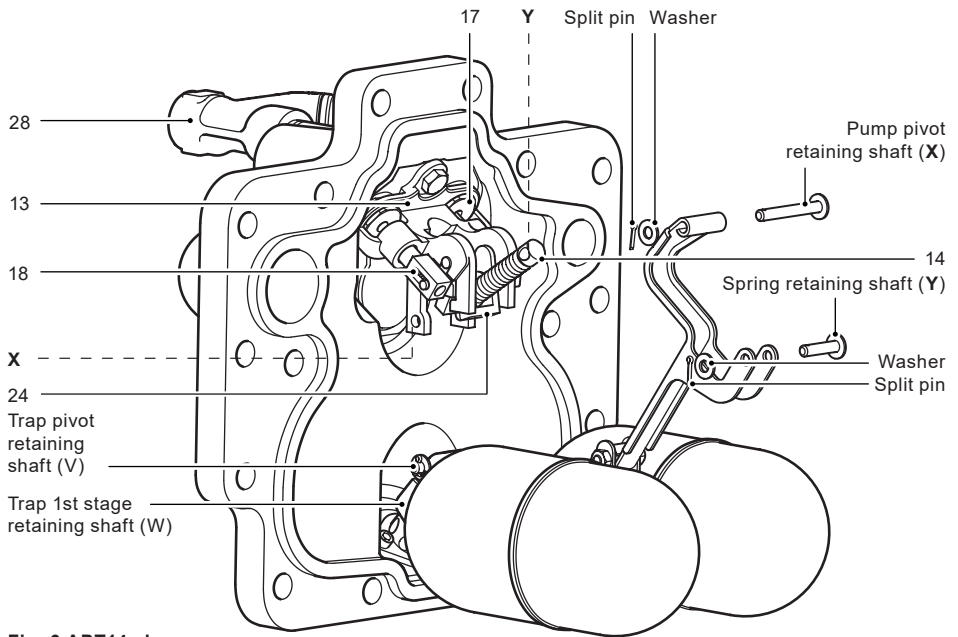
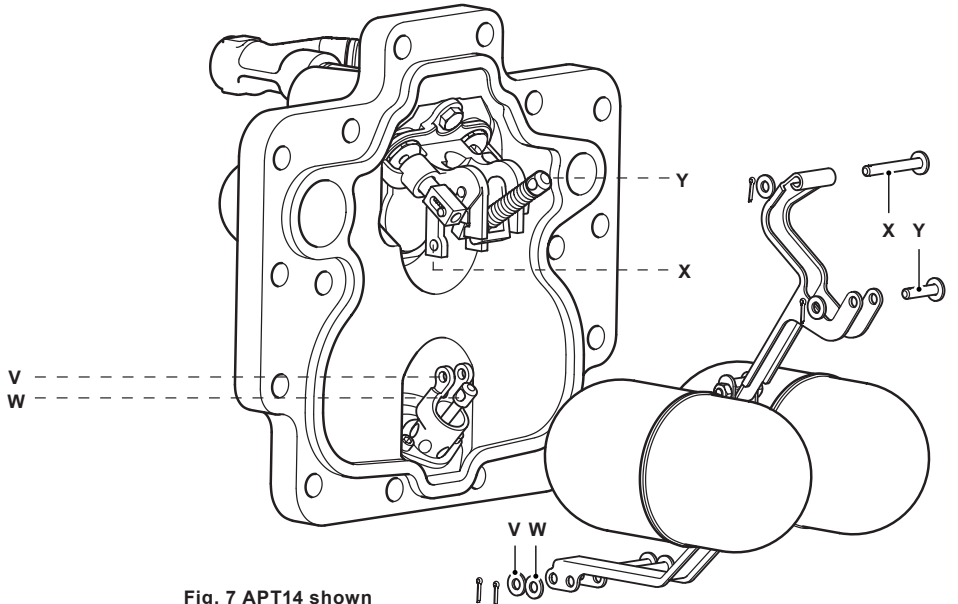

Fig. 6 APT14 shown
Fig. 7 APT14 shown
3. Remove a split pin and washer from one side of the spring retaining shaft (Y) (See Figure 6).
4. Remove a split pin and washer from one side of pump pivot retaining shaft (X).
5. Carefully slide the shafts out from their respective positions observing the orientation of the spring and actuator arm (item 14, 24) within the pump bracket (item 13) as these will need to be refitted later.
6. Remove a split pin and washer from one side of the trap 1st stage valve retaining shaft (W).
7. Remove a split pin and washer from one side of the trap pivot retaining shaft (V).
10. It is easier to fit the replacement shafts in the following sequence:- (See Figure 7).
14. Carefully reconnect the motive steam supply and the exhaust lines to the connections marked (S) and (E). The APT14, APT14HC or APT14SHC is now ready for recommission.
15. Make sure that the Spirax Sarco motive supply strainer (with 100 mesh screen) is reinstated to the motive supply connection (item 28, Figure 6).